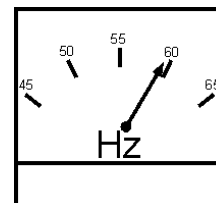

Figure 45. Frequency Meter (Hz)
10. The generator's frequency meter (Figure 45) displays the 60 cycle output frequency in **HERTZ**.